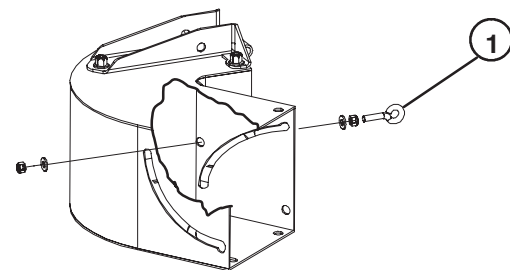

Figure 4
5. Mount an eye bolt to side of chute assembly with (2) washers and jam nuts. Position eye bolt as shown in (Fig. 4).